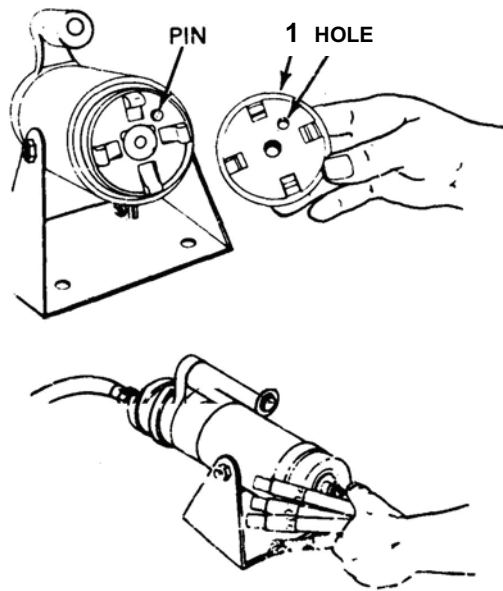

Figure 4. Crimping Die
7. Use appropriate crimping die (See WP 0031) (Figure 4, Item 1) and install onto crimper so pin and hole align. Install retaining ring.